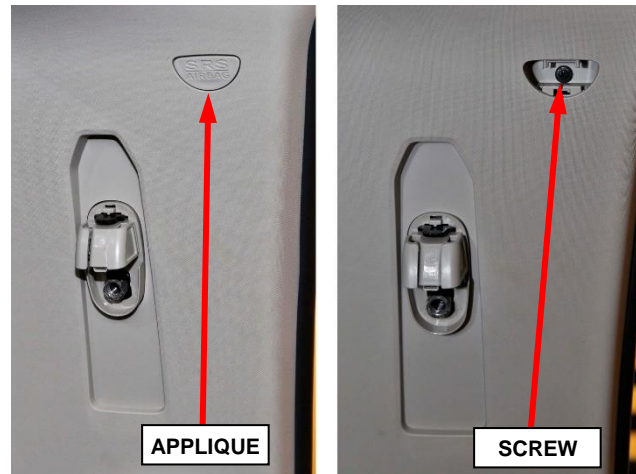

Figure 5 – B-Pillar Upper Trim Panel Fastener
7. Using a trim stick or equivalent, release the B-pillar airbag applique then remove the screw that secures the upper trim panel (Figure 5).
47. Install and tighten the screw that secures the B-pillar upper trim panel then install the airbag applique cover (Figure 5).